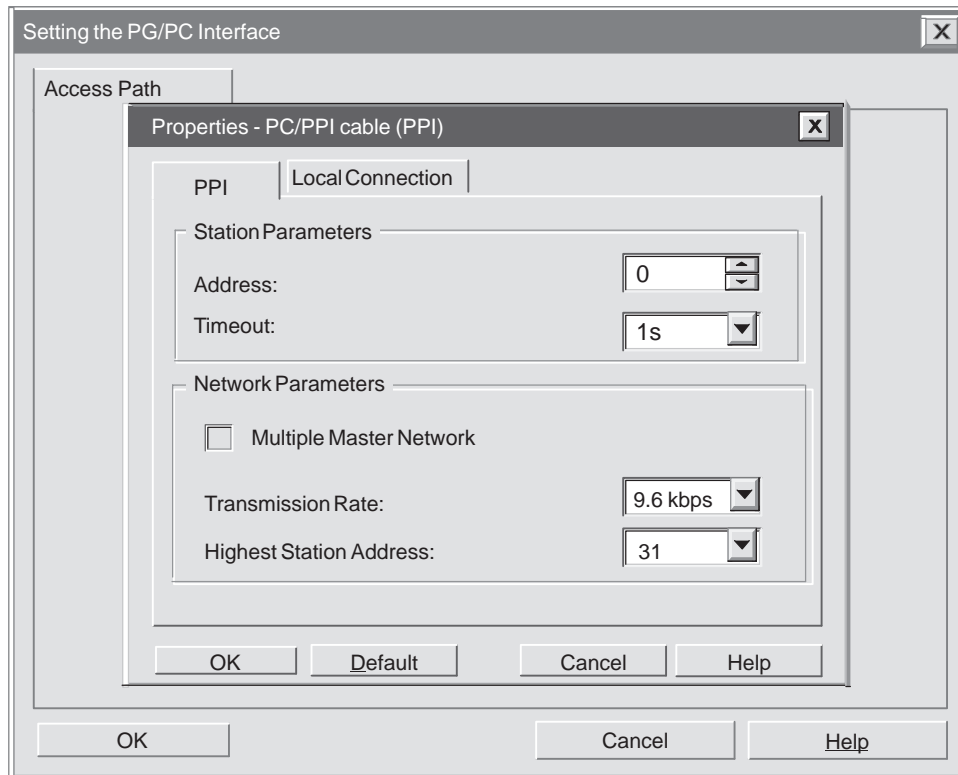

Figure 3-4 Properties - PG/PC Interface Dialog Box
3. Select the "Properties" button. The Properties dialog box for the interface appears (see Figure 3-4). Check the properties to ensure that they are correct. The transmission rate should be 9,600 baud.